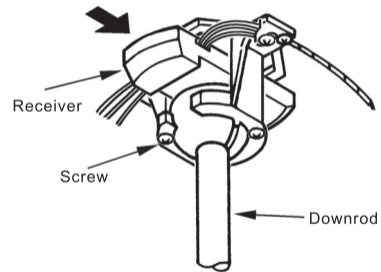

Fig.15
Step 1: Insert the receiver unit into the hanger bracket with the flat side of the receiver facing the ceiling.(Fig.15)